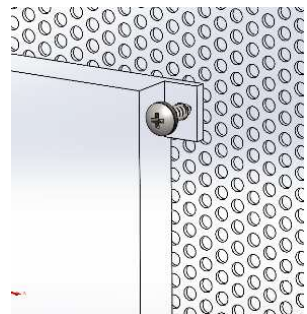

Figure 6b: Screw fixing
- 3) Once position is correct, tighten all screws (max torque 0.6Nm, Figure 6b)